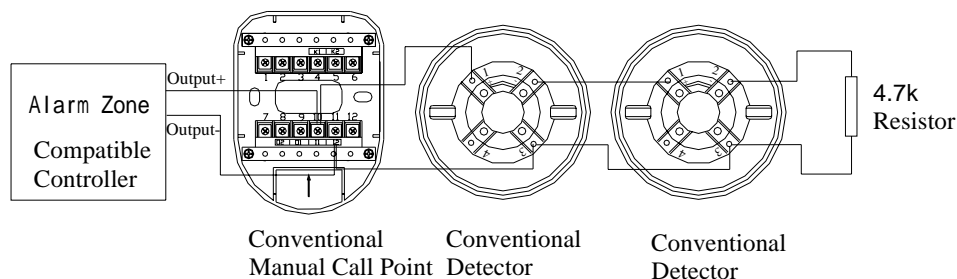

Fig. 7 System composition
- When the detector is connected with compatible controller in series, if a terminal resistor is connected to the loop output terminal, then no diode is connected to the detector base. The system composition is shown in Fig.7.